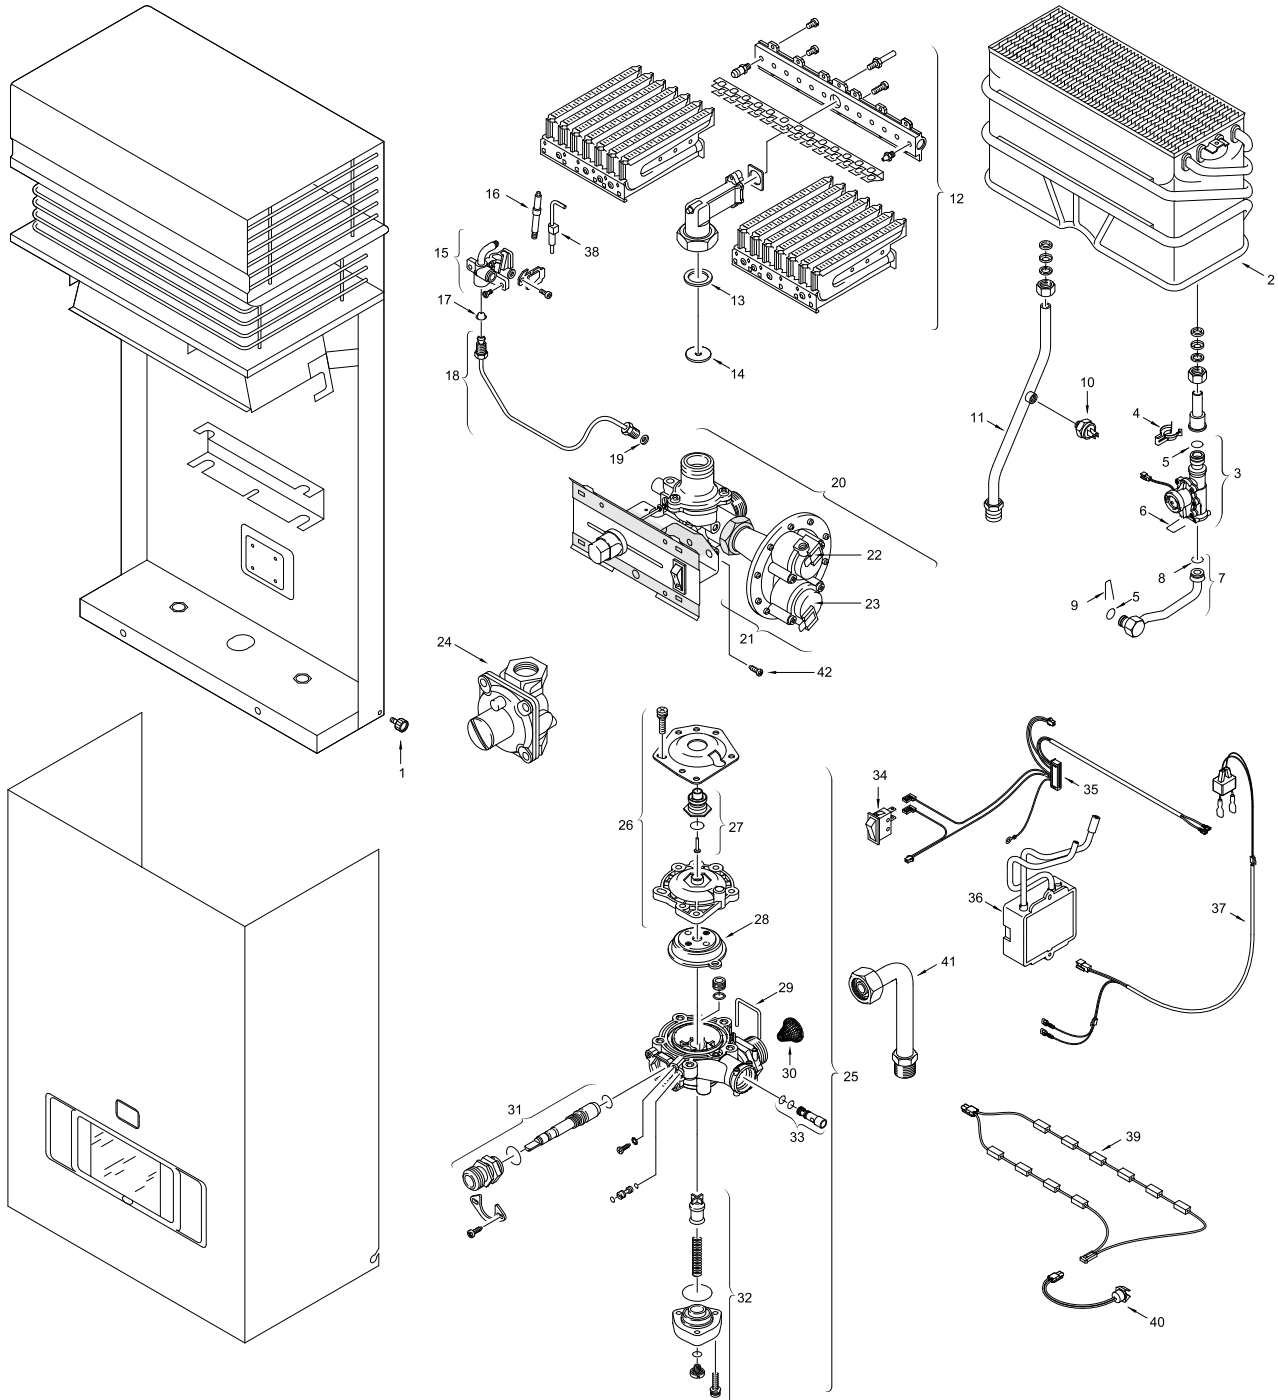

Fig. 14 Components Diagram
A more detailed instruction is available on our website at [www.boschpro.com](http://www.boschpro.com). Shut off all water to the unit and disconnect water pipe going to the back of the water valve. Disconnect water pipe going to heat exchanger by removing pin and pulling pipe out. Loosen two set screws at the base of the gas valve and drop the water valve down. Separate the two halves by removing 5 screws on the top of the water valve. Apply lithium or faucet and valve grease to the pushrod (see Fig 14, pos. 31). Inspect and clean the venturi (see Fig 14, pos. 49).